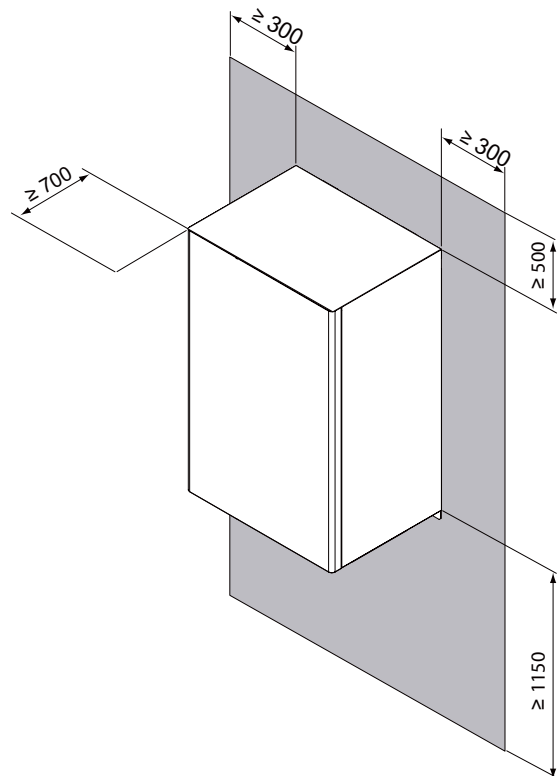

fig. 7 - minimum operating area for indoor unit
- The space around the unit is adequate for servicing, see fig. 7.